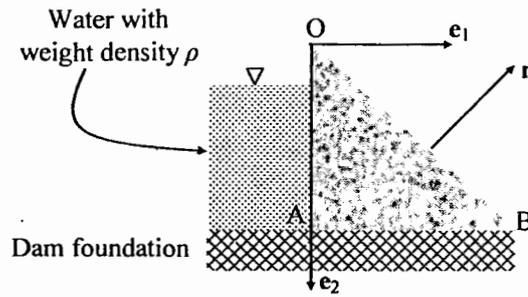

Fig. 2
- (b) Next consider a plane strain case represented by the dam model in Fig. 2. The bottom of the dam is fixed to the rigid floor. Write down the traction boundary conditions in terms of the stress components on faces OA and OB of the dam. Consider the Airy's stress function represented by: